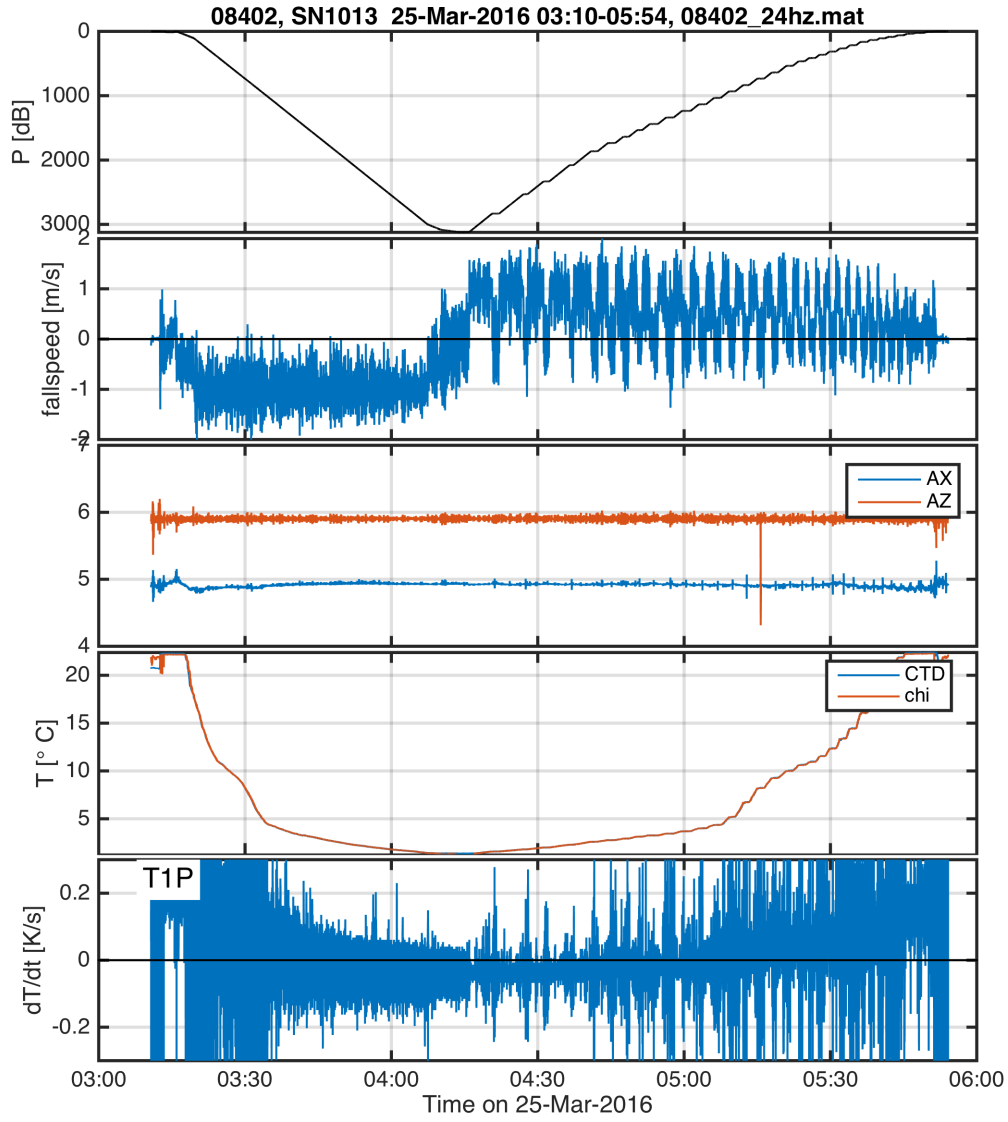

Figure 6: Time series of aligned and calibrated chipod data for one cast.
- `cast_001_T_P_dTdz_fspd` (Figure 6). Summary of the aligned and calibrated data.